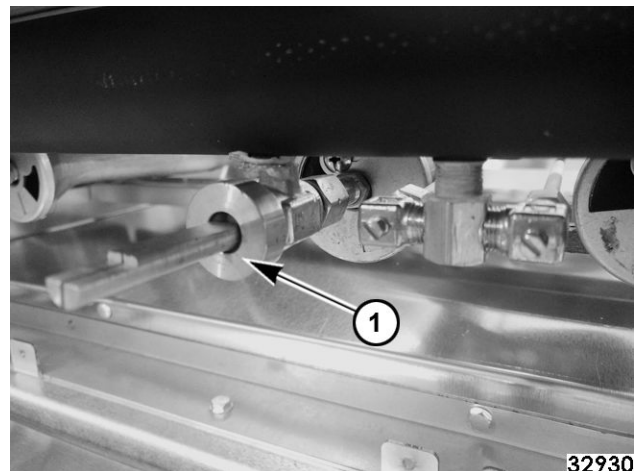

Fig. 99
- Unscrew top burner control valve (1, Fig. 99) from gas manifold.